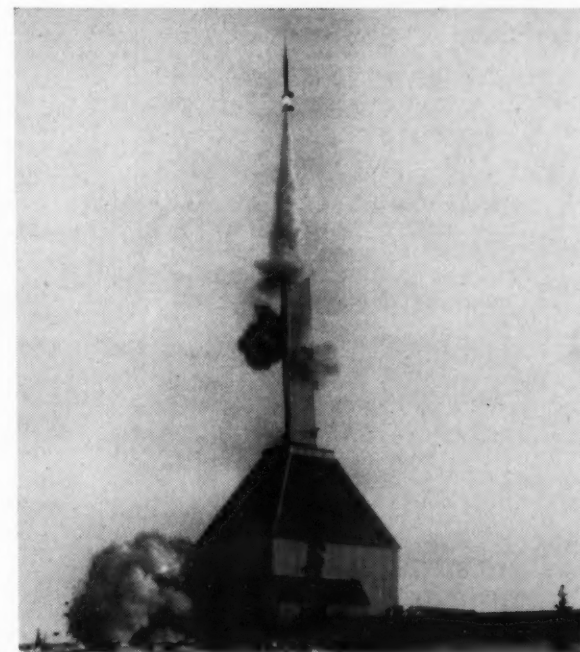

Fig. 1. Navy Aerobee-Hi launching.
**A**N Aerobee-Hi rocket was launched recently (Fig. 1) by the Naval Research Laboratory of Washington, D. C., in preparation for the United States program of rocketry for upper atmosphere research during the International Geophysical Year. It reached an altitude of 125 miles, and a speed more than 4 mile per second. A Decker